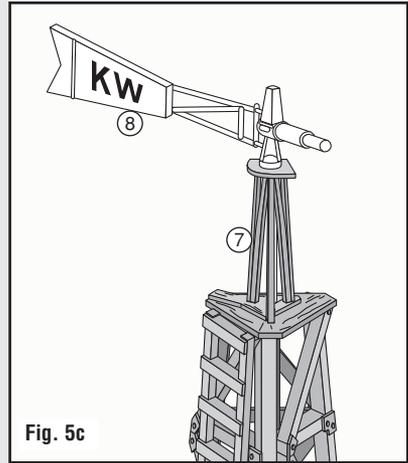

Fig. 5c
- Insert Weather Vane & Gearbox (8) into Upper Frame (7) (Fig. 5c). For rotating Weather Vane, do not glue.